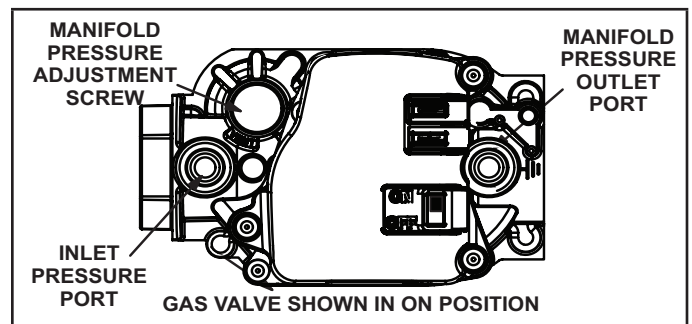

FIGURE 55
Gas Valve Operation (FIGURE 55)
- 6 - Move gas valve switch to OFF. See FIGURE 55.
- 8 - Move gas valve switch to ON. See FIGURE 55.